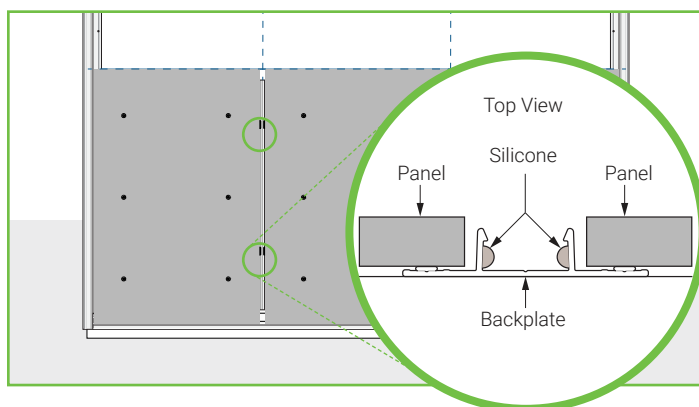

Figure 16.1
5. Install a small dot of exterior silicone into the EZ.Lock® channel of the back plate at 24" intervals (Figure 16.1). This applies to all two piece trims.